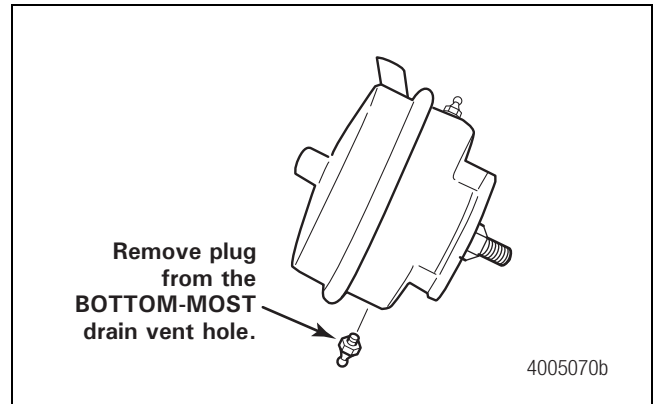
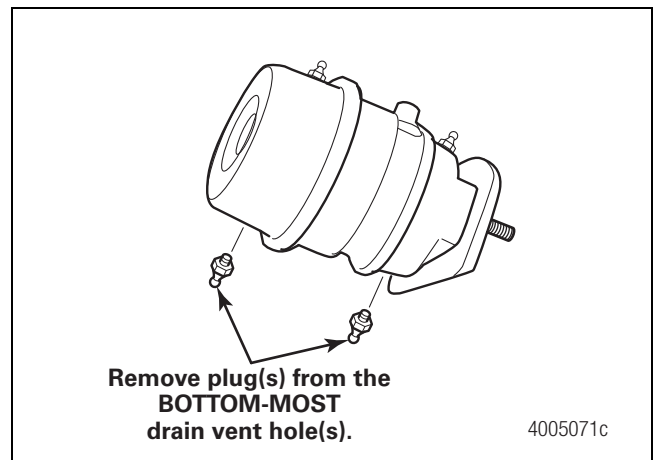

Figure 8.7
Figure 8.8
9. If breather plugs are supplied, locate the bottommost breather plug and remove it from the chamber. Figure 8.7 and Figure 8.8.